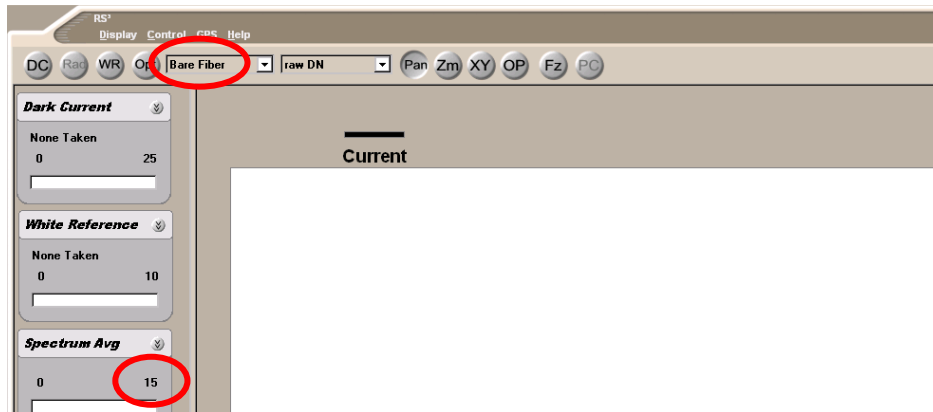

Fig 3. Measurement settings displayed in RS3 software window.
- Check FOV setting, it must be *Bare Fiber* (any foreoptics attached). You can check all the configuration parameters in the main screen of RS3 software (Fig 3).